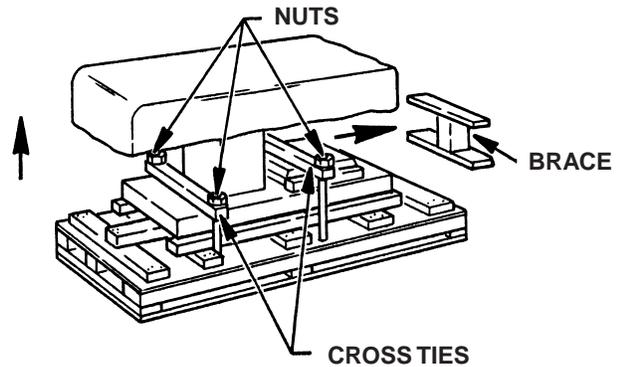

Figure 2.
2. Use an adjustable wrench to remove the nuts securing the cross tie(s). It may be necessary to hold the threaded rod with a pair of pliers, or use grips when removing the nuts. Connect the hand control unit to the table connector, plug the power cord into electrical outlet, and raise the table top approximately 2". Remove all braces and cross tie(s). See figure 2.